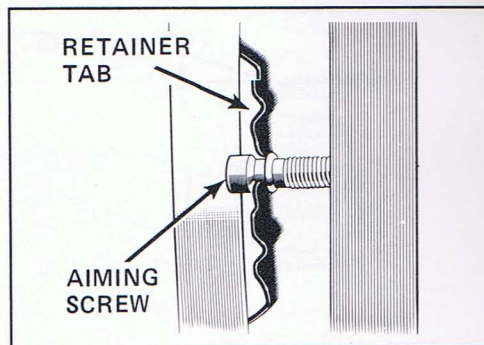

Figure 7 - Left side of left hand headlight (close-up)
14. Install new headlight into the 2-piece retainer. Install the retainer/headlight assembly, making sure the retainer tabs are properly located in the aiming screw slots. See Figure 7.